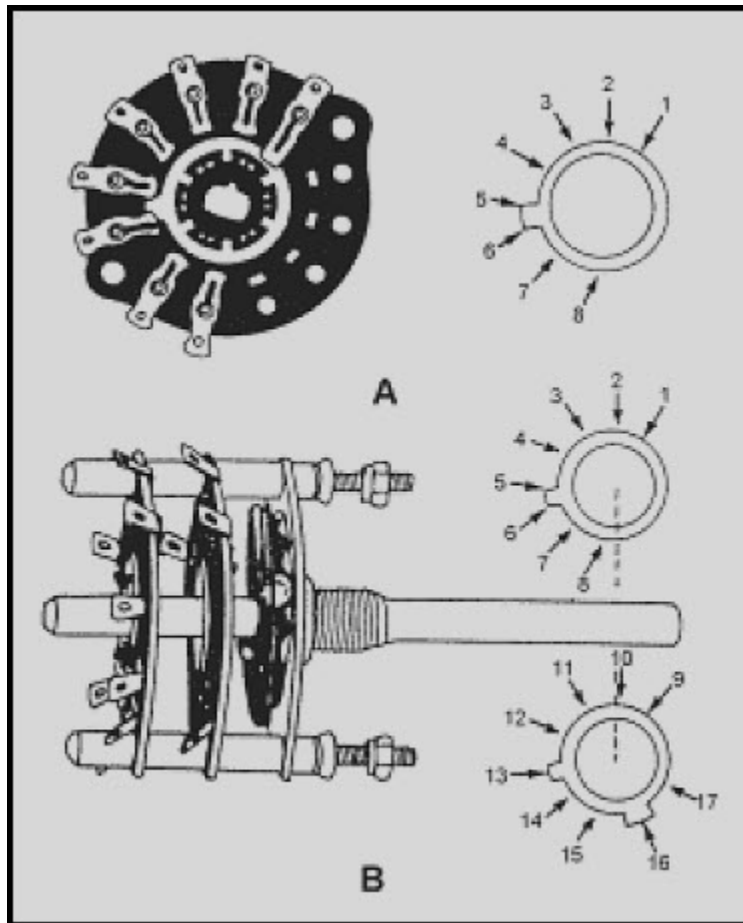

Figure 3-9 Wafer switch
Figure 3-9(A) shows one wafer of a wafer switch and its schematic symbol. Contact 1 is the point at which current enters the wafer. It is always connected to the movable portion of the wafer. With the wafer in the position shown, contact 1 is connected to both contact 5 and 6 through the movable portion. If the movable portion was rotated slightly clockwise, contact 1 would only be connected to contact 5. This arrangement is known as MAKE BEFORE BREAK because the switch makes a contact before breaking the old contact.
Figure 3-9(B) is an illustration of the entire switch and its schematic symbol. Since the switch has two wafers mechanically connected by the shaft of the switch, the shaft rotates the movable portion of both wafers at the same time. This is represented on the schematic symbol by the dotted line connecting the two wafers.
The upper wafer of the schematic symbol is the wafer closest to the control mechanism, and is identical to the wafer shown in figure 3-9(A). When switches have more than one wafer, the first wafer shown is always the wafer closest to the operating mechanism. The lower wafer on the schematic diagram is the wafer farthest away from the operating mechanism. Contact 9 of this wafer is connected to the movable portion and is the point at which current enters the wafer. In the position shown, contact 9 is connected to both contact 13 and 16. If the switch is rotated slightly clockwise, contact 9 would no longer be connected to contact 13. A further clockwise movement would connect contact 9 to contact 12. This arrangement is called **BREAK BEFORE MAKE**. Contact 9 will also be connected to contact 15 at the same time as it is connected to contact 12.